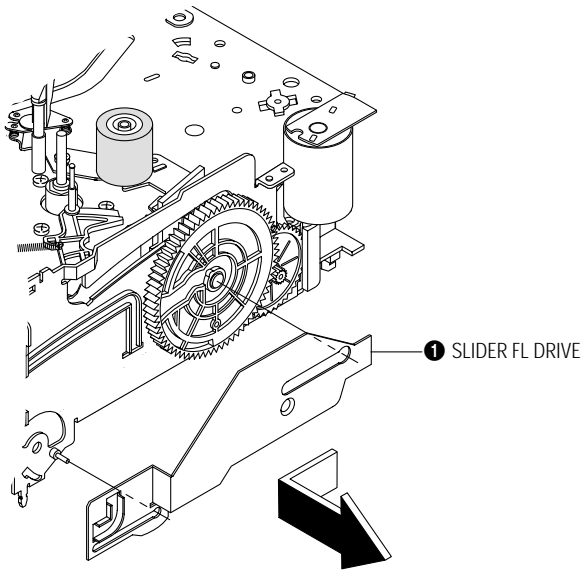

Fig. 4-12 Slider FL Drive Removal
- 2) Remove the Slider FL Drive **1** in the direction of arrow. (Refer ti Fig. 4-12)